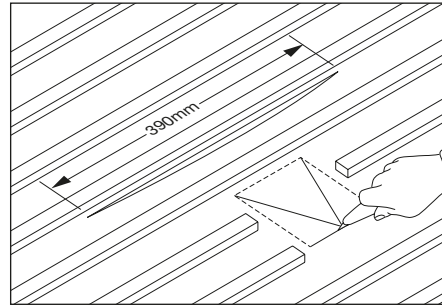

Fig. 1 – Make aperture in underlay
- 4 Make a horizontal cut in underlay, 390mm long, at a distance 150mm above bottom edge of tiling batten above unit and slide soaker tray under batten and through slit in underlay (Fig. 1).